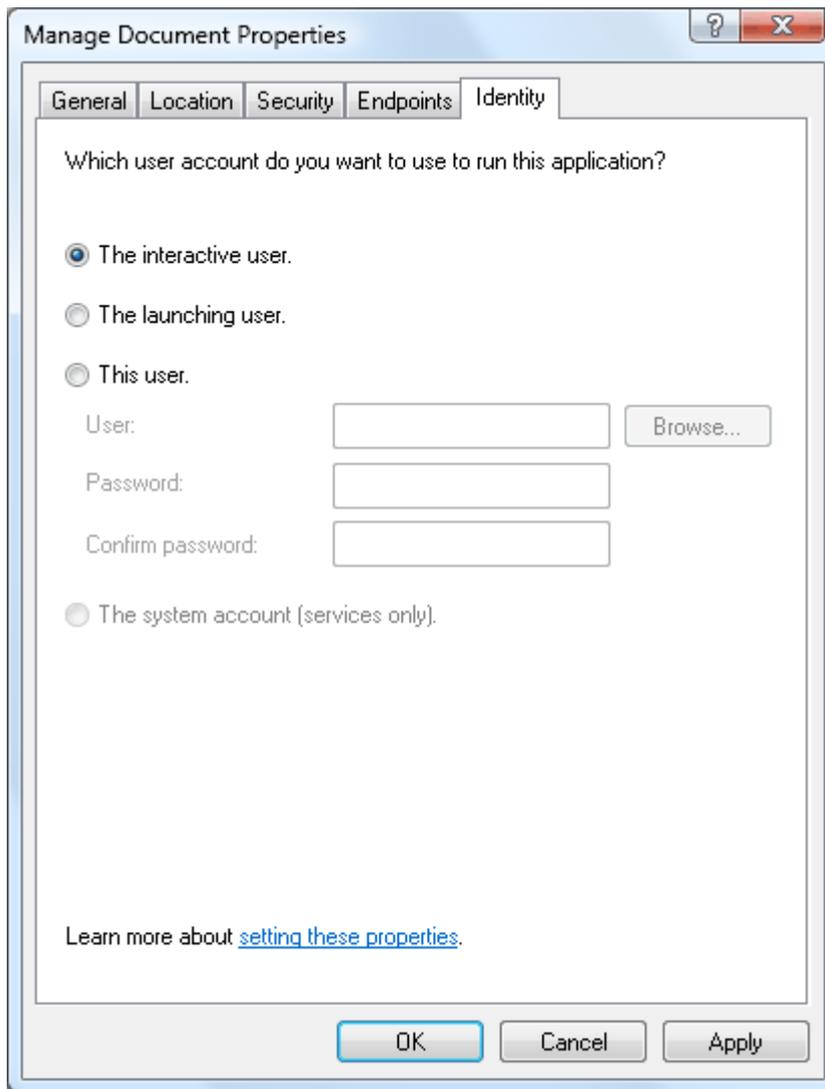

Figure 4-18: Manage Document Properties Window-Identity Tab
6. Select the **Identity** tab, as shown in Figure 4-18.